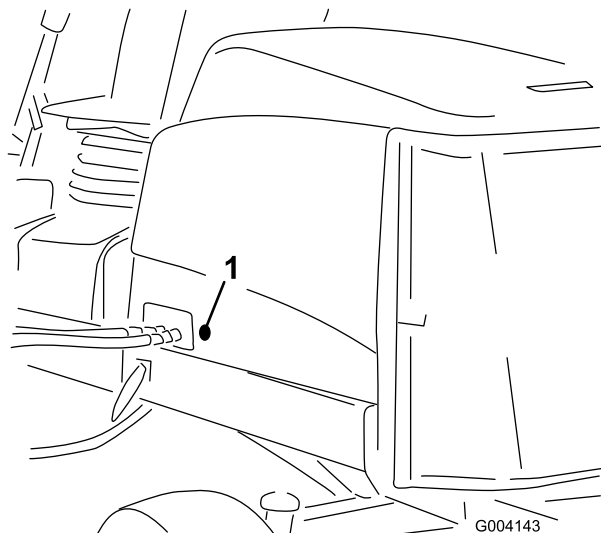

Figure 16
2. Remove the rubber grommet from the hole in the left side of the hood (Figure 16).